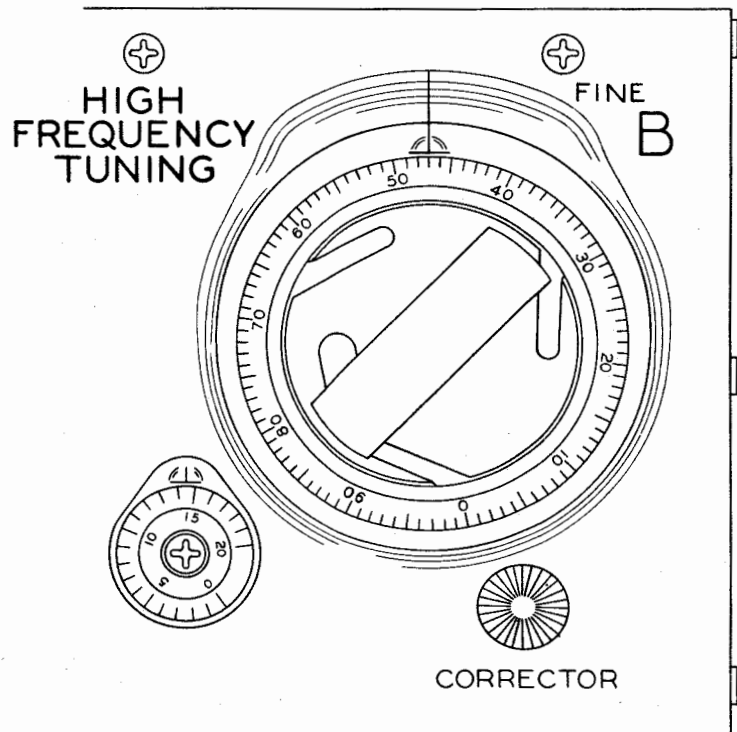

Figure 3-3 High Frequency Tuning Control
(1) Plug a pair of headphones into the No. 1 sidetone jack on the transmitter. Sidetone No. 2 cannot be used unless proper external connections have been made through remote jack J-106 or terminal board J-1903.
(2) Turn LOCAL-REMOTE switch to LOCAL.
(3) Find desired frequency in calibration table, Table 3-1 or 3-2.
(4) The main frequency controls ("B" for the high frequency range and "G" for the low frequency range) each rotate 20 turns to cover a tuning range. The dial reading given in the table is the number of turns indicated on the small turn counter followed by the dial setting of the large knob. Thus, the dial reading shown in Figure 3-3 is 1447.